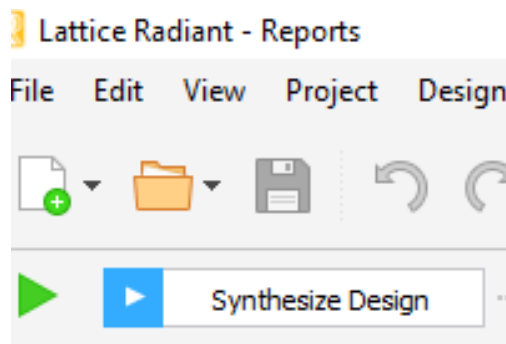

Figure 3.3. Synthesizing Design
- Upon generating the desired design, the user can synthesize it by clicking **Synthesize Design** located on the top left corner of the screen, as shown in Figure 3.3.